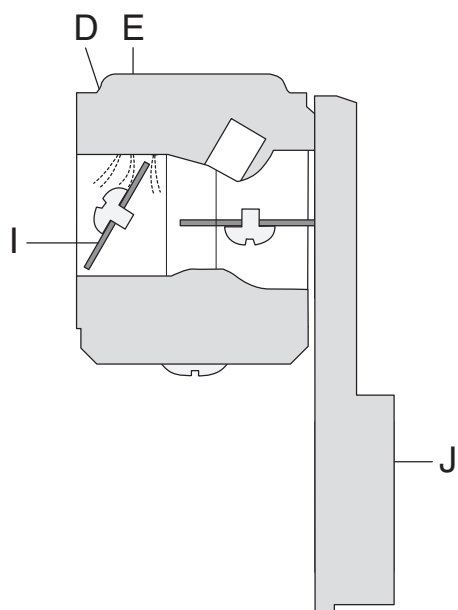

Fig. 6
7. Tighten the bolts to 5 Nm. See fig. 6.
8. Fit the oil pump gear. See fig. 6.
In the part throttle mode (fig. 6) the throttle valve (I) is partially open. Fuel is supplied through the diffuser jets (D and E).